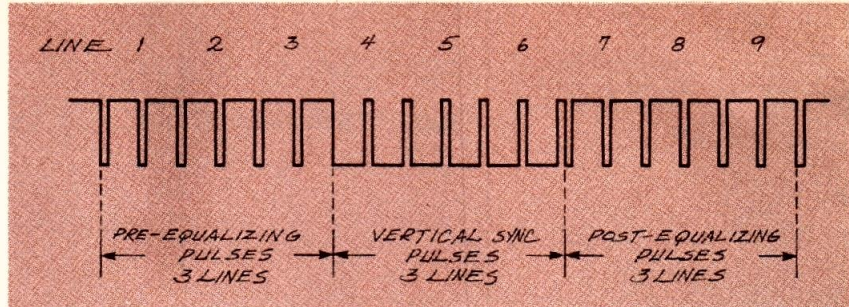
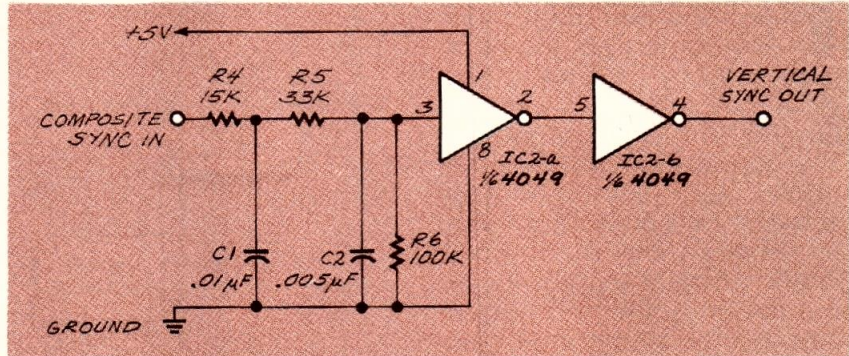

FIG. 3—COMPOSITE SYNC WAVEFORM. Vertical sync is the most negative part of composite sync.
FIG. 4—TO ISOLATE VERTICAL SYNC, we need a simple low-pass filter like this.
time to work out the details of the reset circuit since it has to isolate vertical sync from the composite sync signal. The way to do that should be obvious when you look at Fig. 3, the composite sync waveform. Just as it's supposed to be, vertical sync is the most negative part of composite sync. To isolate the vertical sync, we need a simple low-pass filter; a suitable one is shown in Fig. 4.
- Six terminals of S1-c to each of the oscillators shown in Fig. 4